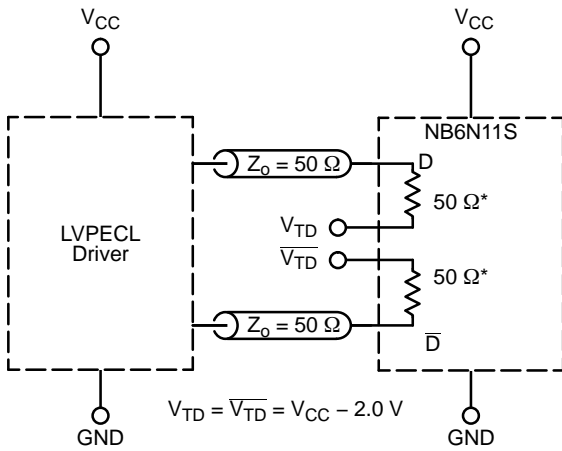

Figure 11. LVPECL Interface
**DIFFERENTIAL INPUTS DRIVEN DIFFERENTIALLY** (Figures 11, 12, 13, 14, 21, and 23)